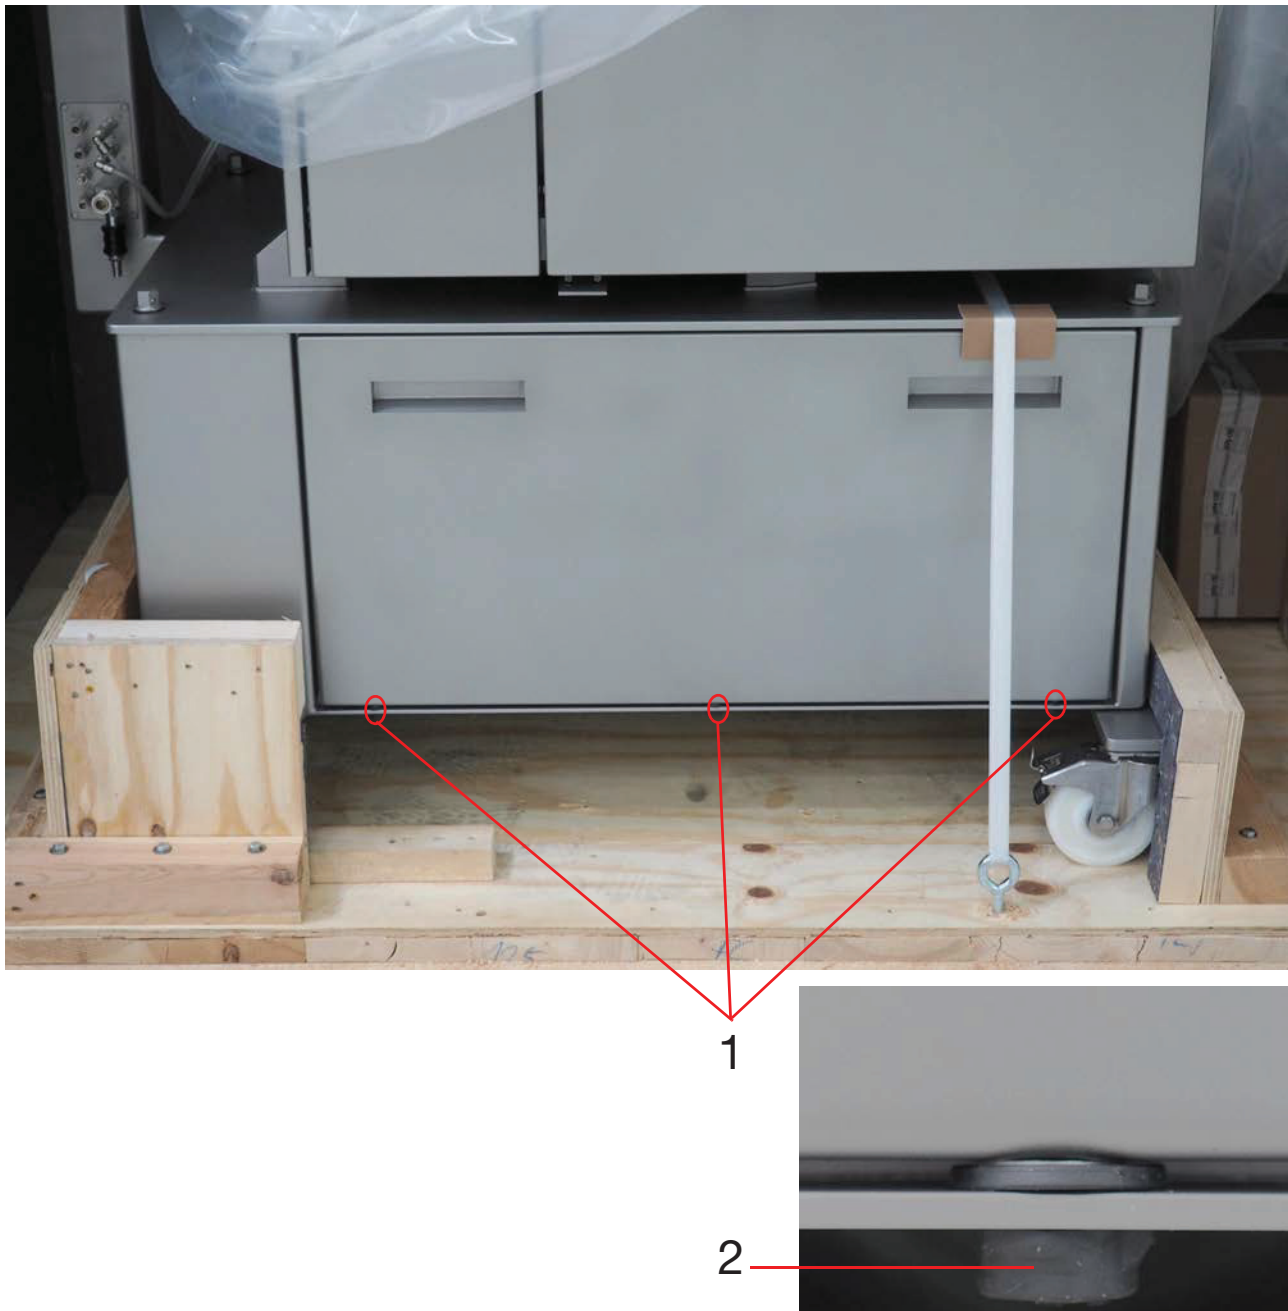
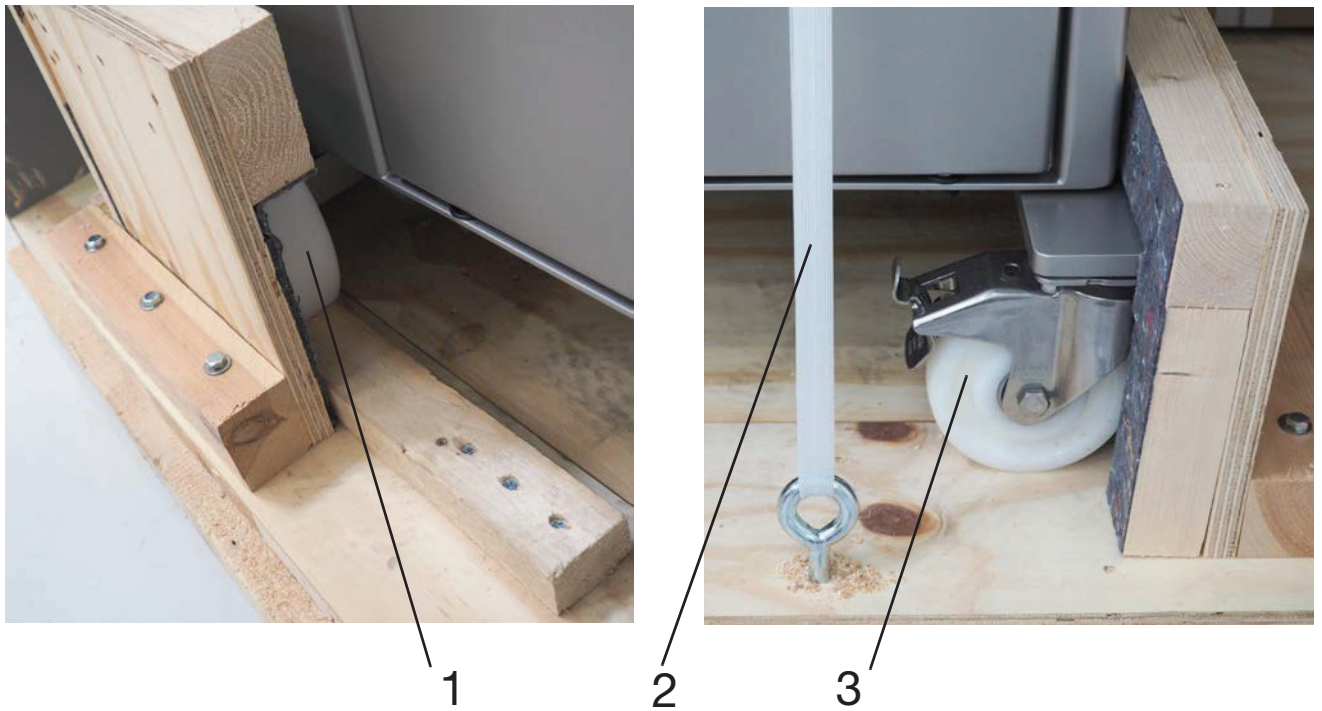

Fig. 1-27 Machine bolted onto pallet to prevent it tipping over
Fig. 1-28 1 Wheel
- The machine may only be lifted using a forklift truck. The forklift truck must have a sufficient load capacity. Never place the fork tines under one of the 3 bushes on the panel as this will cause the panel to bend (Fig. 1-27)! Set the forks as far apart as possible and pick up the machine centrally from the rear.
- Secure the swivel castors and wheels to prevent them from slipping. Apply the parking brakes on the swivel castors. (Fig. 1-28)
- Fit tension straps across the machine from one side to the other. (Fig. 1-27, Fig. 1-28)
- Never place the fork tines under one of the 3 bushes on the panelling as this will cause the panel to bend (Fig. 1-27)!